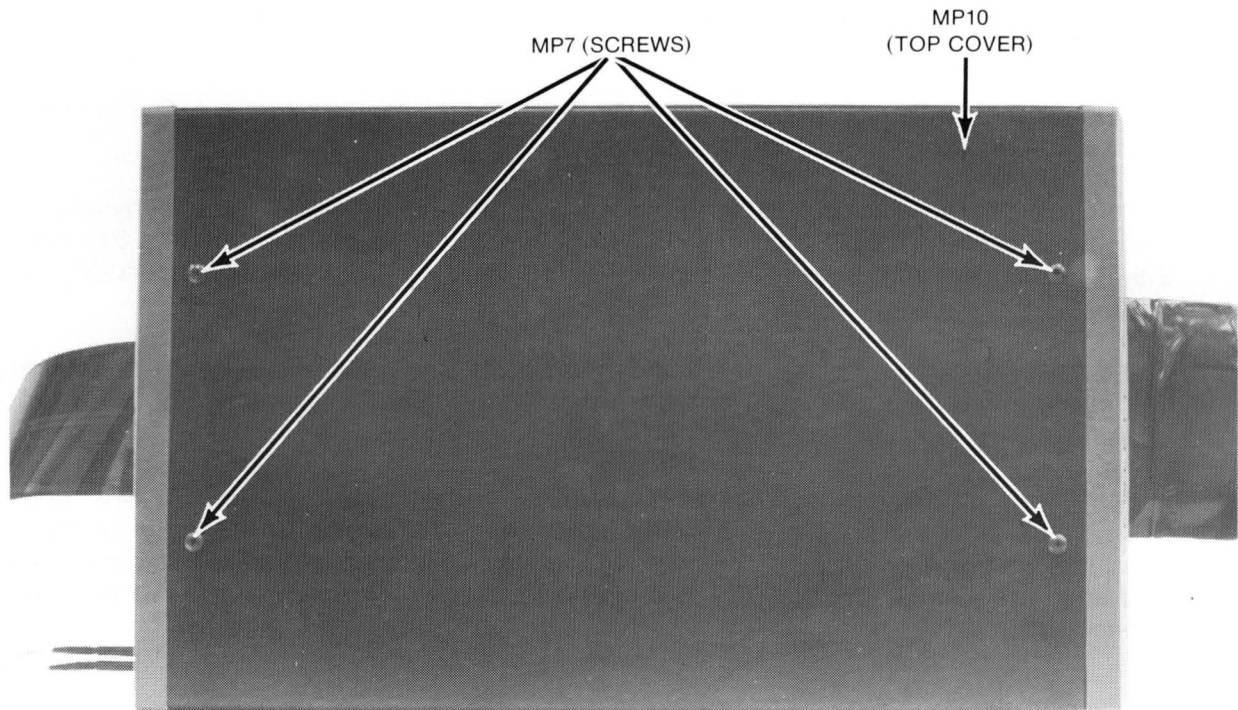

Figure 2-6. 80186 Emulator Pod Top View
- d. Remove the four screws from the top cover of the emulator pod (MP7, see figure 2-6).
4. Insert and tighten the four screws (MP7; figure 2-6) which attach the RFI end shields to the pod top cover.